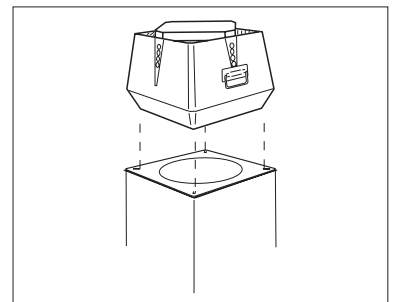

Fig. 5
- If the fan is installed on a curb cap, secure the roof curb with sheet metal screws (see fig. 5).